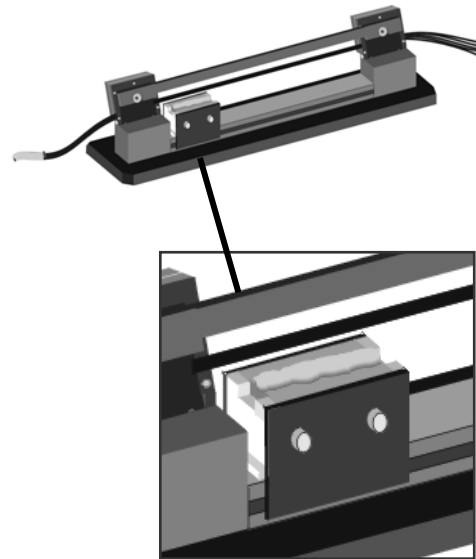

Figure 6. Applying Adhesive
5.06.3 Uncap the adhesive and apply a thin bead (1/2 X 3/16 in., 12 X 5 mm) lengthwise along the center of the lower applicator (refer to Figure 6). Once the adhesive is dispensed quickly cap it and set it aside.